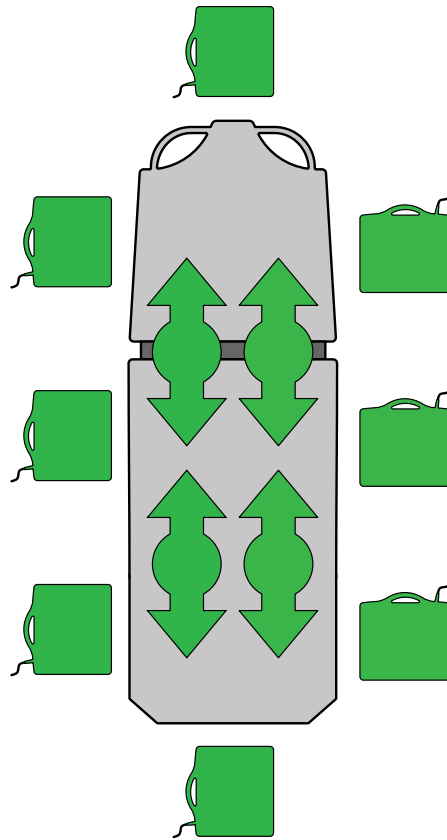

**Figure 21 – Inserting or removing X-ray cassettes**
1. Center the patient on the product with the position indicator labels located on all sides of the product (Figure 21).